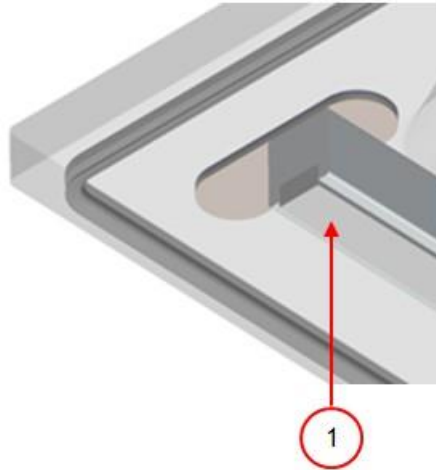

Figure 22: Replacing the Silicone Rubber of the Silicone Holders
1. Pull the old silicone rubber from the holder, see *Figure 22: Replacing the Silicone Rubber of the Silicone Holders* on page 65.